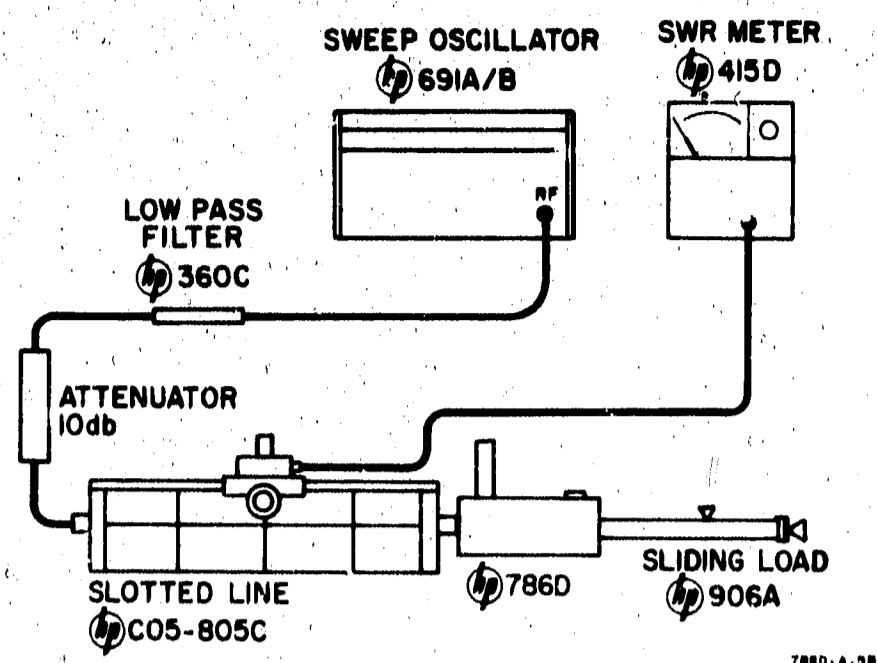

Figure 9. SWR Check
a. Set up test equipment as shown in Figure 9.